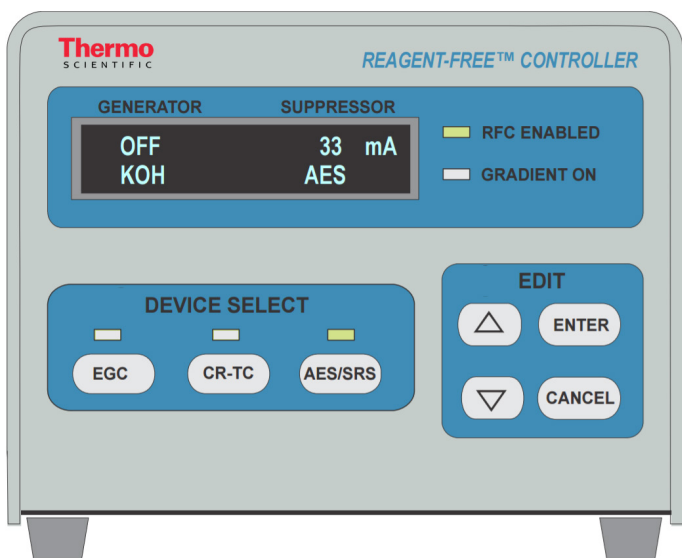

Figure 8. Reagent-Free controller RFC-10 module used to supply 20 mA of current to Dionex EWP Electrolytic Water Purifier module.
- Advance to the Main Screen (Figure 8) by pressing the Arrow key. Notice that the mA should read 20.00 when the pump is on